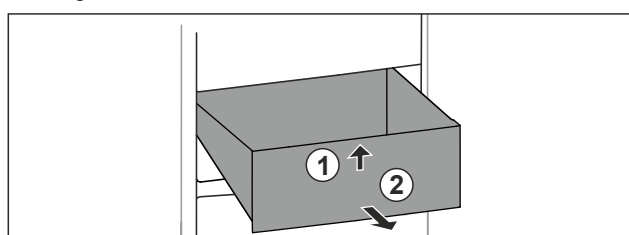

Fig. 80
- Lift up drawer at the front. Fig. 80 (1).
- Remove drawer to the front. Fig. 80 (2).